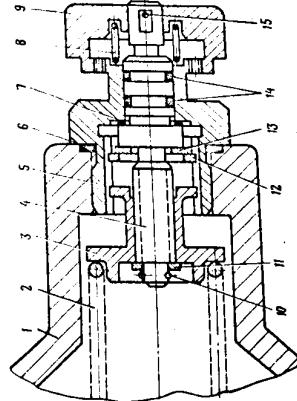

FIG. 42. Adjusting Head of Acceleration and MP-10KC Pump Jettison Control Units
- (c) manipulate the knob of the acceleration control unit adjusting head (Fig.42) to adjust fuel pressure drop in the auxiliary pipe-line at an engine speed corresponding to the engine control lever position at the "NORMAL" (HOMMHAI) stop, with the jet for bleeding air from the acceleration control unit turned out, and at idling speed; perform additional adjustment of engine acceleration, if no proper jet for bleeding air has been selected. Prior to be turned, the knob should be disengaged by pressing it off.
Time period within which engine speed is accelerated to 2000 r.p.m. should be adjusted by turning the knob of the starter control unit adjusting head (See Fig.42); prior to turning the knob should be disengaged by pressing it off.